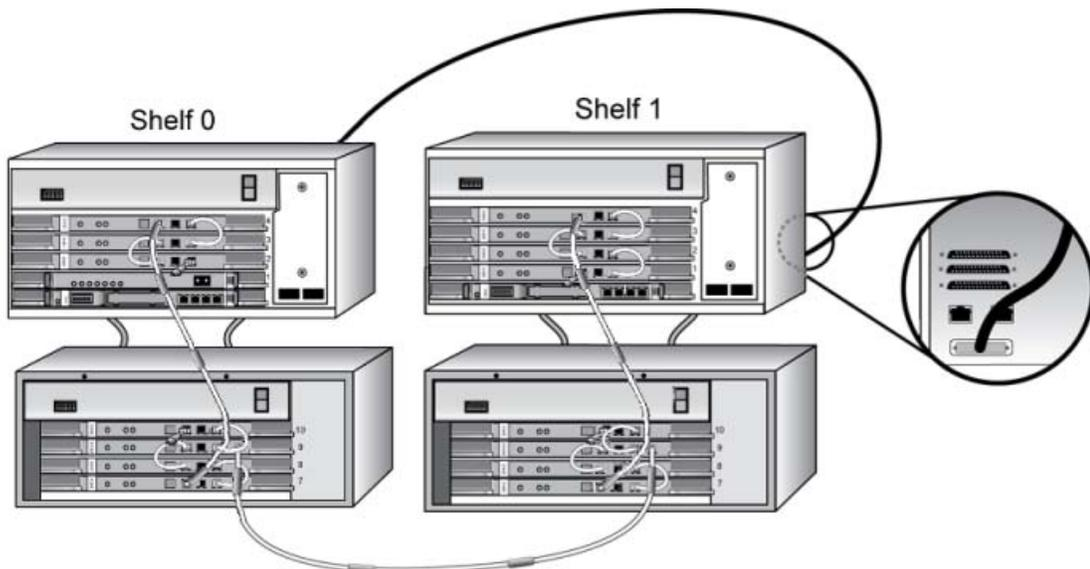

Figure 106: Example of two-shelf 15-card system in two MG1000E Chassis and Expanders
2. CS 1000E only -- install clock sync cable if you use a two-shelf configuration. For an example see Figure 106: Example of two-shelf 15-card system in two MG1000E Chassis and Expanders on page 175
Figure 106: Example of two-shelf 15-card system in two MG1000E Chassis and Expanders on page 175
Figure 106: Example of two-shelf 15-card system in two MG1000E Chassis and Expanders on page 175.